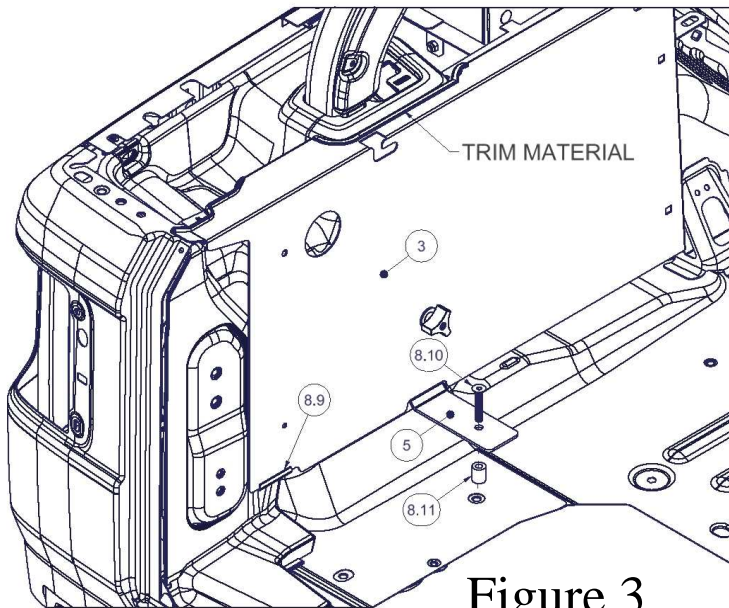
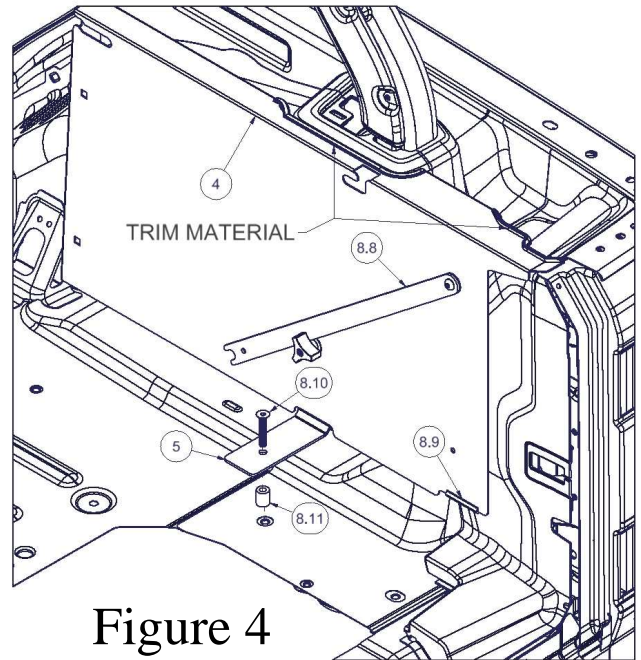

Figure 3
Figure 4
7. Install the #3 Left Panel (Drivers Side), and #4 Right Panel (Passengers Side) into the cargo area using the #8.10 bolts, and the #8.11 Spacers as shown in Figure 3 and Figure 4. The ends of the #5 mounting brackets will be very close to the edge of the factory cubby cover panel but should not overlap. Adjust the side panels so that the #8.9 Rubber Spacers rest on the plastic trim, and the upper profile seats tightly around the plastic trim, and tighten the #8.3 Knob Screws. **NOTE:** Before installing panels, make sure the trim material around the upper edge is seated properly to the metal panel as it may have separated during shipment.